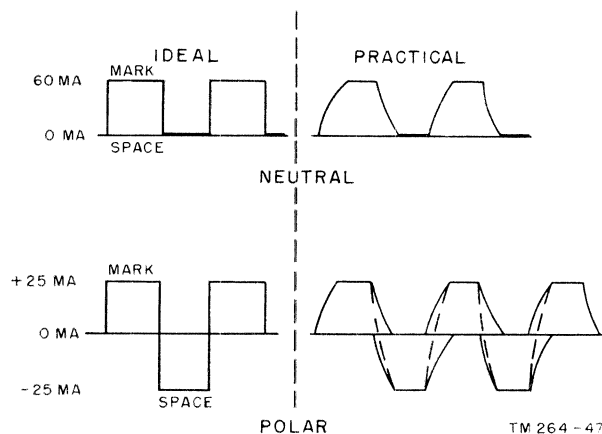

Figure 64. Neutral and polar waveshapes.
b. **POLAR SYSTEM.** In the polar system, current is sent over the wire in one direction for the marking impulses and in the other direction for the spacing impulses (fig. 64). The polar